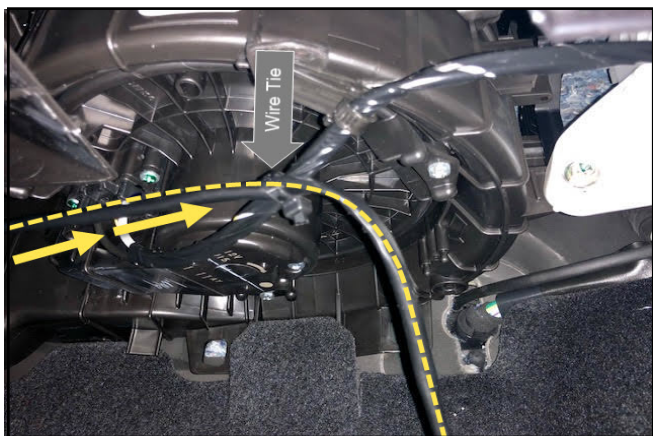

Figure 27a
33. Secure the harness to the blower fan assembly as shown with a wire tie. See Figure 27a.